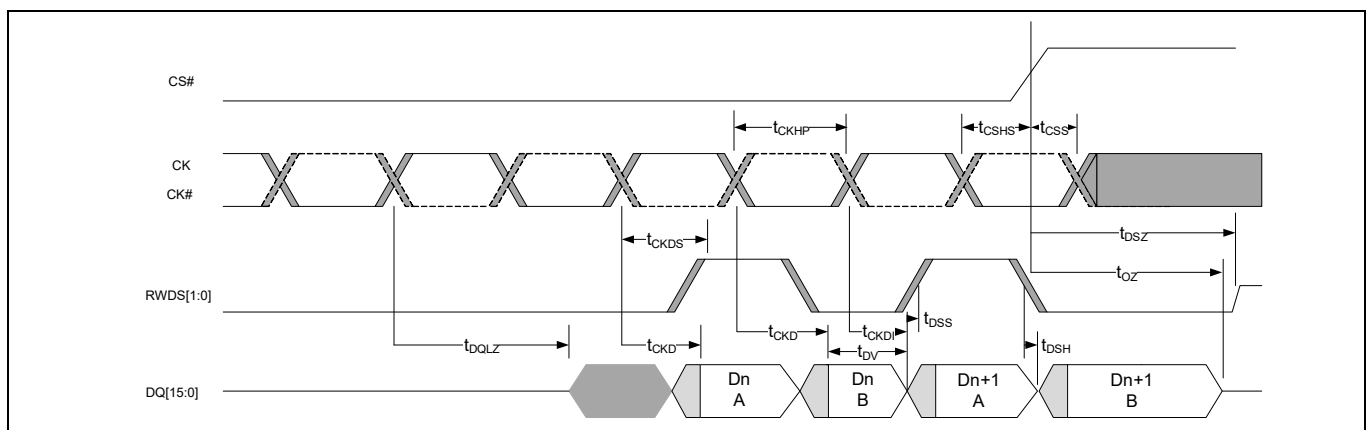

Figure 32 Data valid timing [74-76]
72. Refer to Figure 32 for data valid timing.